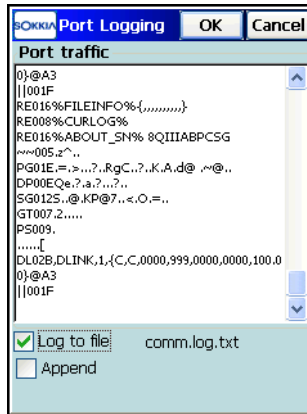

Figure 2-10. Logging to File
3. Tap **OK** to return to the *Port Logging* screen to view the data being saved to the file. The file name is also shown on the screen (Figure 2-10).